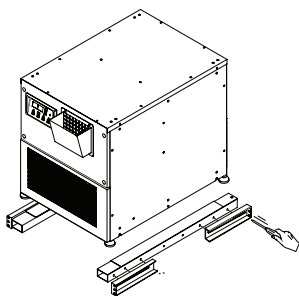

Figure 11- rack assembly attachment
2. Use screws to install the rack assembly in server rack as shown in Figure 11.